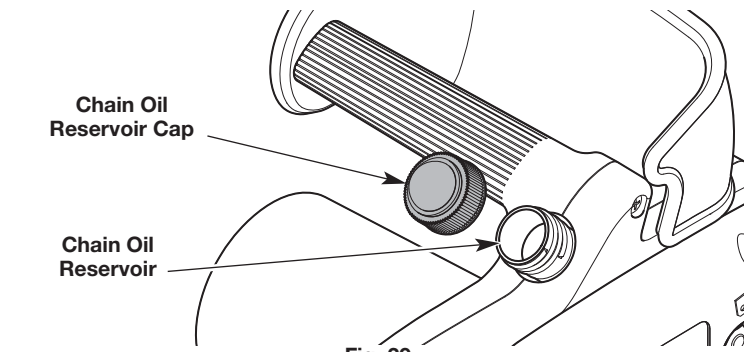

Fig. 29
3. Unscrew the chain oil reservoir cap (Fig. 29).